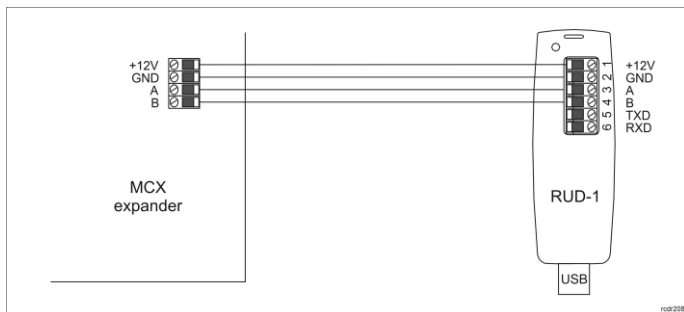

Fig. 1 Connection of the expander to RUD-1 interface (configuration)
1. Connect the device to RUD-1 interface (fig. 1) and connect the RUD-1 to computer's USB port.